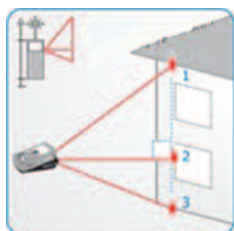

Figure 8
This setting is used to find the distance between two points using the addition of two heights. See Figure 8 below for further clarification. First, take the measurement at the top height (1). Then, take the horizontal measurement in between the two heights (2). Last, take the measurement at the bottom point (3). The meter will then show the distance between points 1 and 3 on the main display.